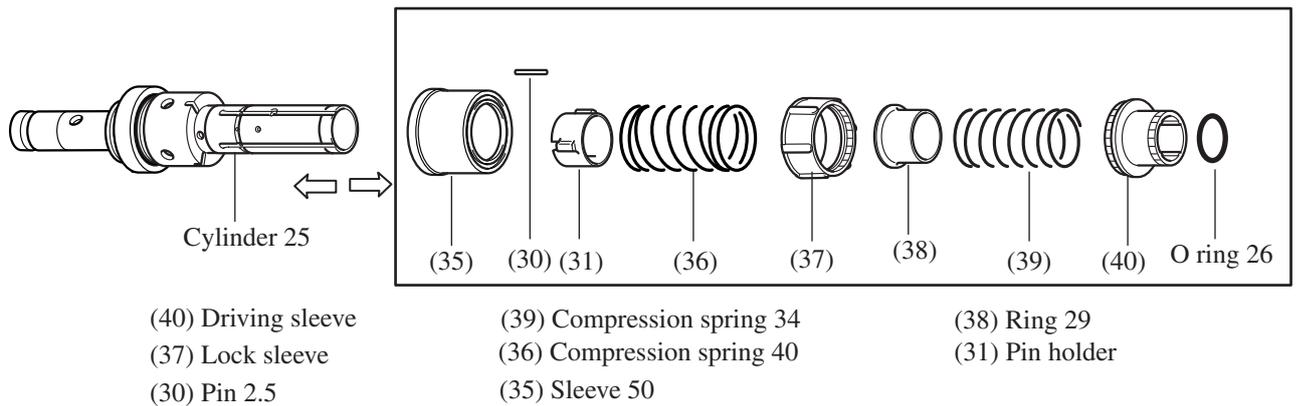

Fig. 24
(1) Take off O ring 26, then, the following parts can be disassembled from cylinder 25 as illustrated in Fig. 24.